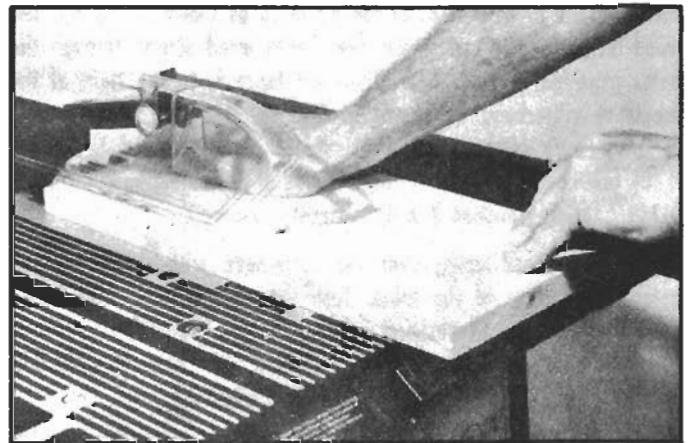

Fig. 41
2. Now remove the miter gage from the table surface and clamp the rip fence on the table approximately $3\frac{1}{2}$ " on the right hand side of the blade. Leave the blade at 0° tilt and 1" height as was for the previous checks. Make a rip cut as shown in Fig. 41 and make the following observations during the cutting.
Ripping is the operation of making a lengthwise cut through a board, as shown in Fig. 41. The rip fence is used to position and guide the work. One edge of the work rides against the rip fence while the flat side of the board rests on the table. Since the work is pushed along the fence, it must have a straight edge and make solid contact with the table. The saw guard **MUST** be used. The guard has anti-kickback pawls to prevent kickback and a spreader to prevent the saw kerf from closing and binding the blade.
Start the motor and advance the work holding it down and against the fence. Never stand in the line of the saw cut when ripping. Hold the work with both hands and push it along the fence and into the saw blade as shown in Fig. 41. The work can then be fed through the saw blade with one or two hands. After the work is beyond the saw blade and anti-kickback pawls the hand is removed from the work. When this is done the work will either stay on the table, tilt up slightly and be caught by the rear end of the guard or slide off the table to the floor. Alternately, the feed can continue to the end of the table, after which the work is lifted and brought back along the outside edge of the fence. The waste stock remains on the table and is not touched with the hands until the saw blade is stopped, unless it is a large piece allowing safe removal.